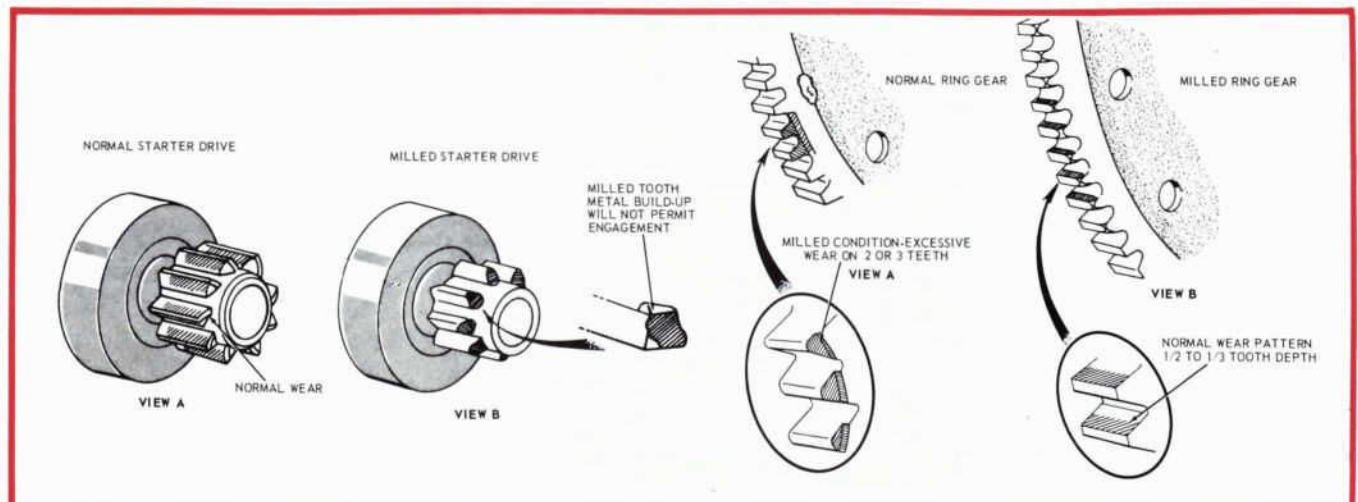

Figure 13—Starter Drive Pinion and Flywheel Tooth Damage
Remove the starter and examine the drive pinion for milled, chipped, cracked and/or bent teeth. Examine the entire ring gear for broken or milled teeth and wear pattern. The wear pattern must penetrate to a depth greater than  $\frac{1}{2}$  the tooth depth. Normal wear is shown in Figure 13.
1. Insert the starter into pilot hole, making sure that the starter housing pilot completely enters the pilot hole for a full 360°. Also, be sure that the starter housing face is square and tightly flush with the engine-rear cover plate (Fig. 13).